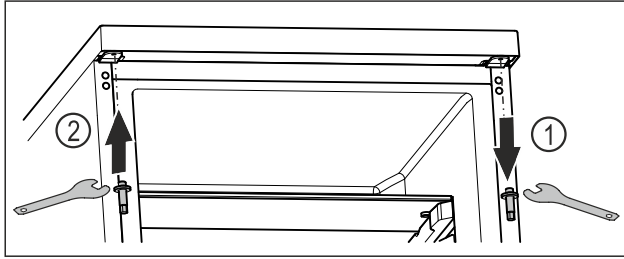

Fig. 14
- ▶ Unscrew the upper bolt with an Allen key. Fig. 14 (1)
- ▶ Tighten the bolt on the opposite side with an Allen key. Fig. 14 (2)